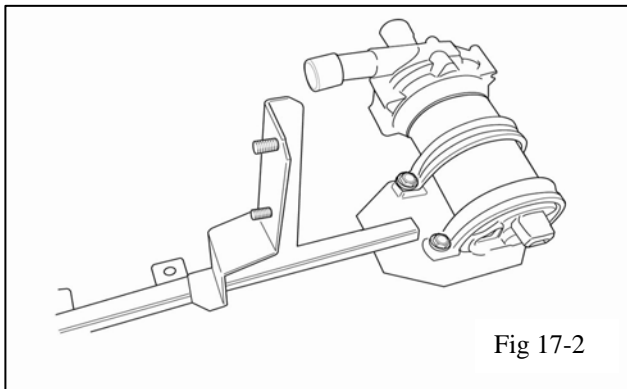

Fig 17-2
- (b) Mount the intercooler pump (I1) to the new hood support bracket using the two large #35 Adel Clamps (H1) and M6X16 Hex Flange Head Bolts (H9) (Fig 17-2). Do not tighten the fasteners at this time. **HINT: It helps to hand shape the Adel Clamps to the shape of the pump.**